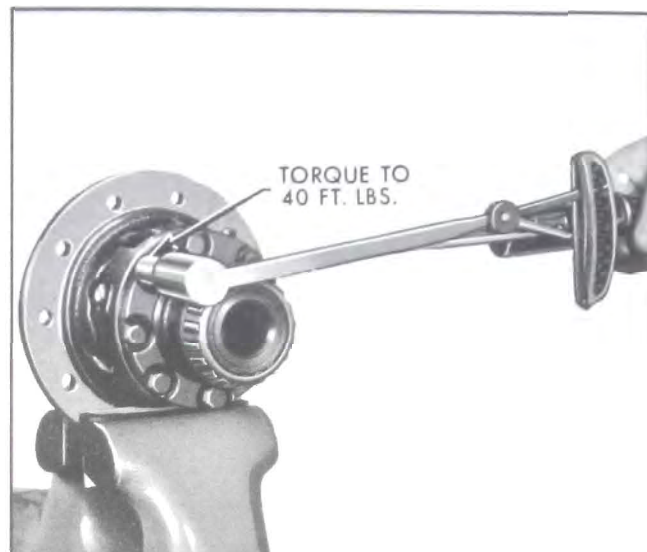

Figure 6-54—Torquing Differential Bolts
9. Install eight cover to flange case bolts and tighten evenly and alternately to 30-40 ft. lb. torque. See Figure 6-54.